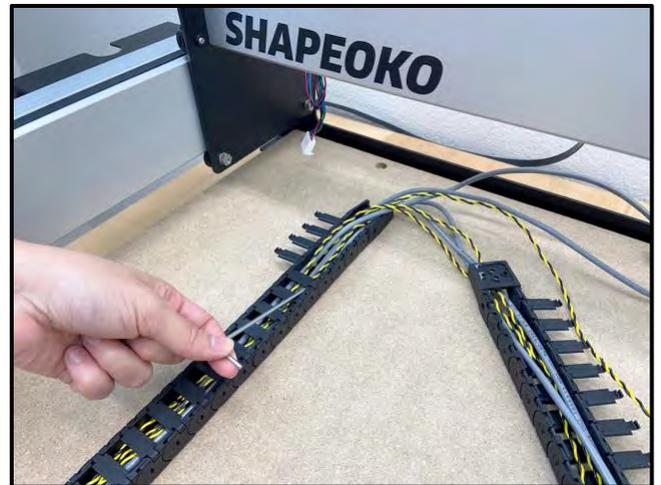
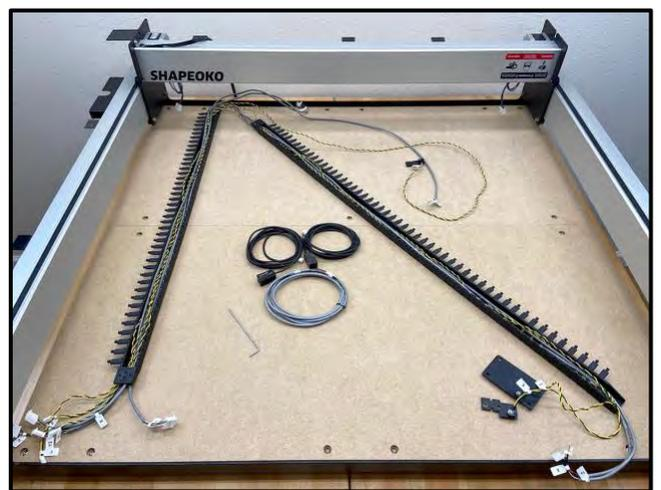

Figure 22
Figure 23
1. Open up the drag chain and remove the black and yellow homing switch cables. See *Fig. 22* and *Fig. 23*.
- a. Position the drag chain on the baseframe as shown in *Fig. 23*, with the chain's clip-on panels facing up. (Only one side of the chain will open; be sure this side is facing up.)
- b. Use a hex key or screw driver as a lever to pry open one side of each drag chain link. Start from the rear of the machine and work your way forward as shown in *Fig. 22*.